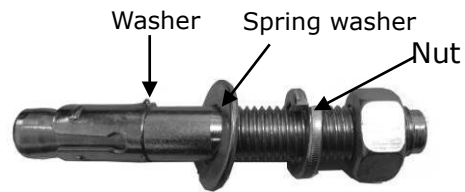

Fig. 35
1. Prepare the anchor bolts (**See Fig. 35**).